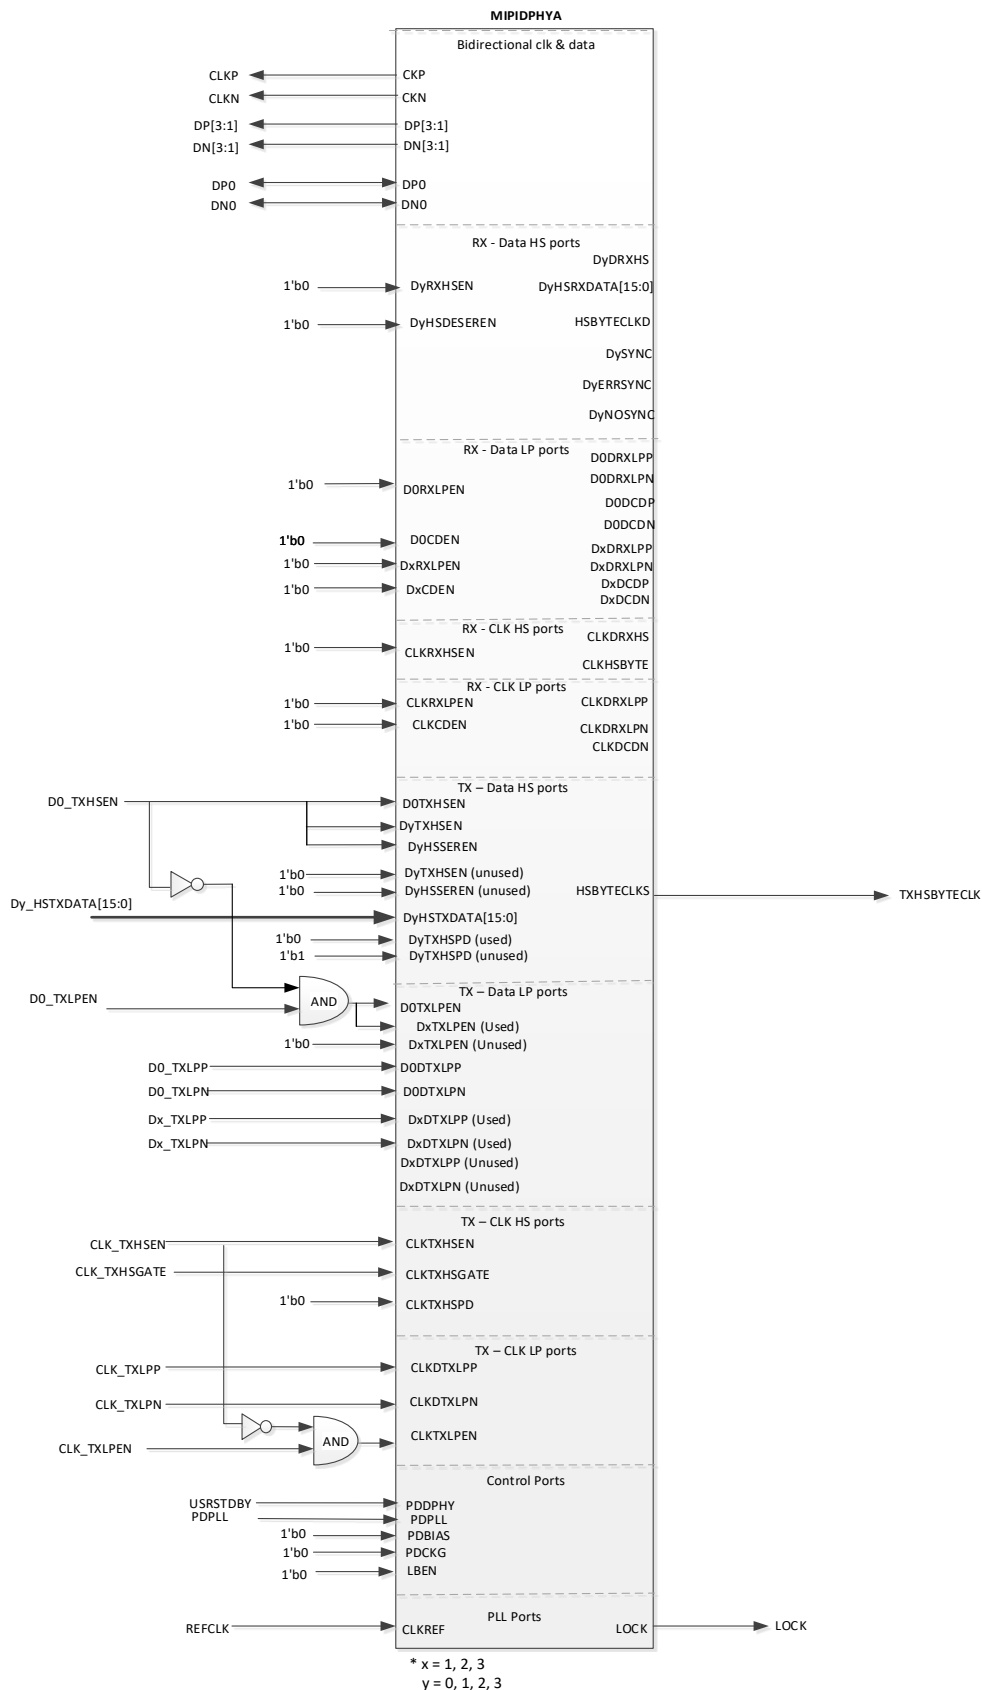

Figure 5.29. MIPI CSI2 Transmit Interface with Hard D-PHY Module
- Figure 5.29 shows the signals connected to the fabric and the automatic settings when the hardened D-PHY is configured for CSI-2 transmit mode. The Clarity Catalog GUI settings automatically powers down unused lanes of the hardened D-PHY.
- Only D0 and CLK bits are used in LP mode. The key difference between CSI-2 and DSI transmit is that the D0 signal is always an output in HS and LP modes, rather than bi-directional. D1, D2, and D3 pins (when those lanes are used) should be toggled between LP/HS mode based on D0 state as shown in Figure 5.29.